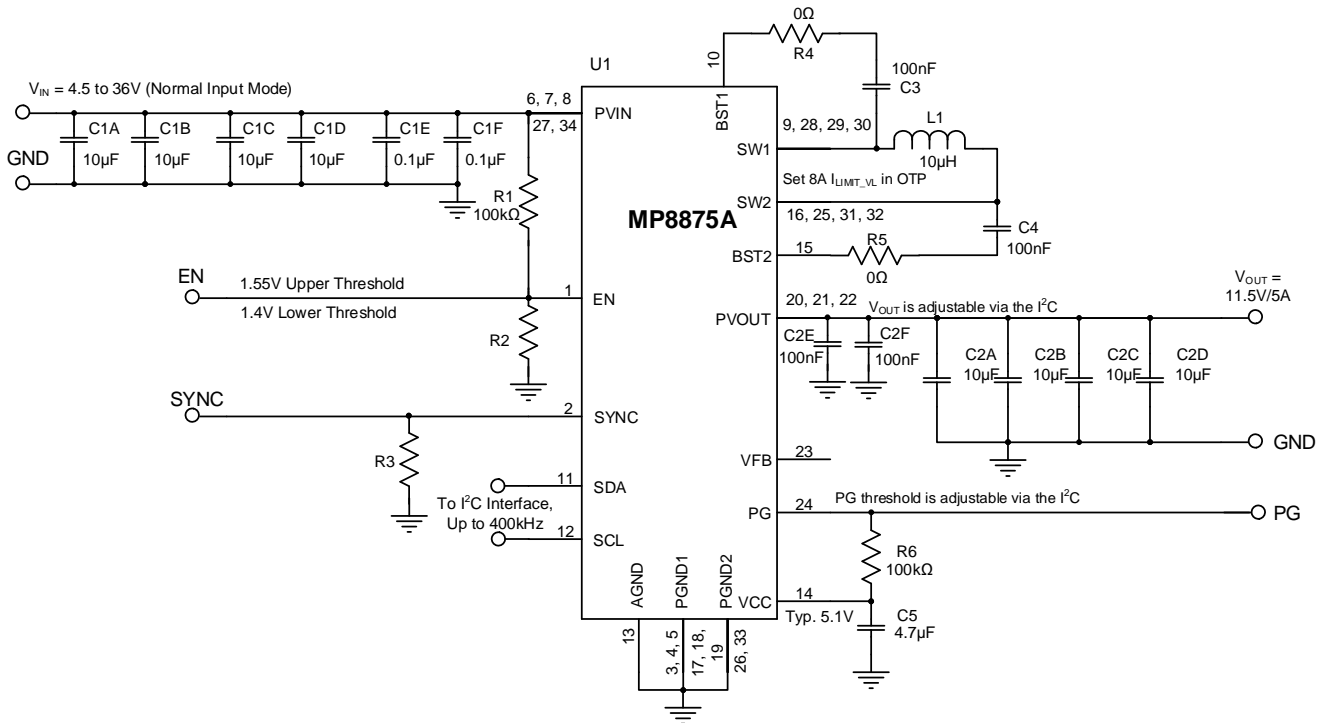

Figure 32: $V_{OUT} = 11.5V$, $f_{sw} = 450kHz$
12) The recommended PCB layout is based on the typical application circuit (see Figure 32 on page 63).